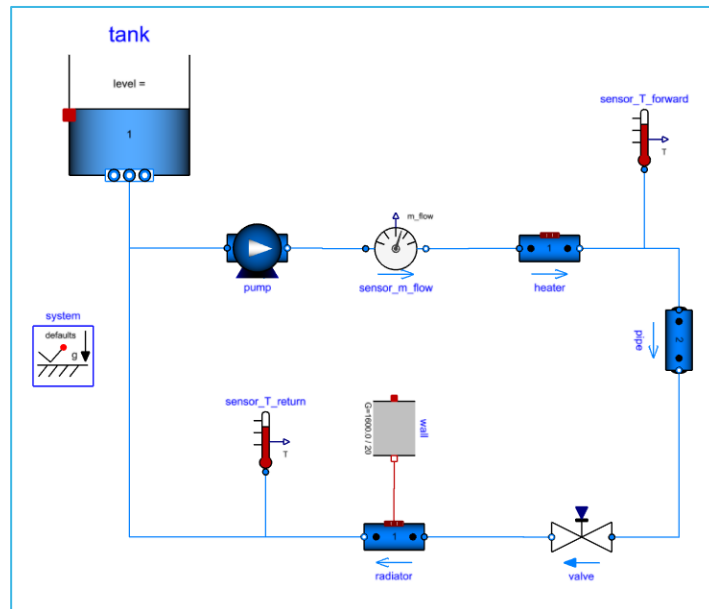

Figure 7 Connect sensors and add system component
6. Connect them to the system according to the schema in **Figure 7**: